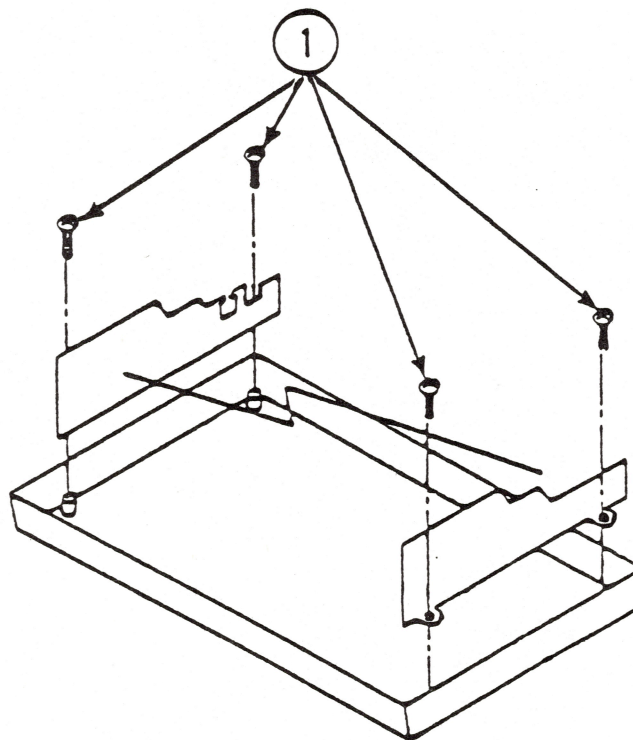

FIGURE 2
8. To free the mechanical assembly, remove the four screws holding it to the bottom cover (see Figure 2, #1).